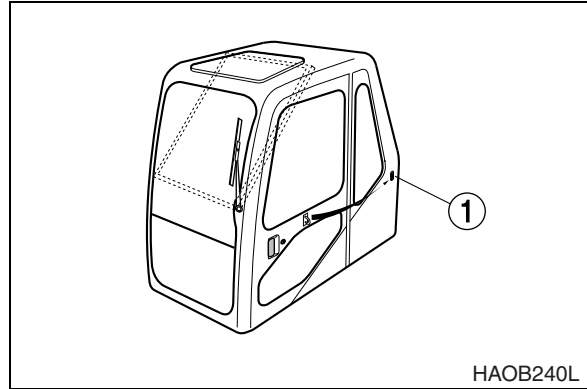

Figure 100
1. The door side latch (1, Figure 100) is used to secured the door to the side of the cab when it is opened.